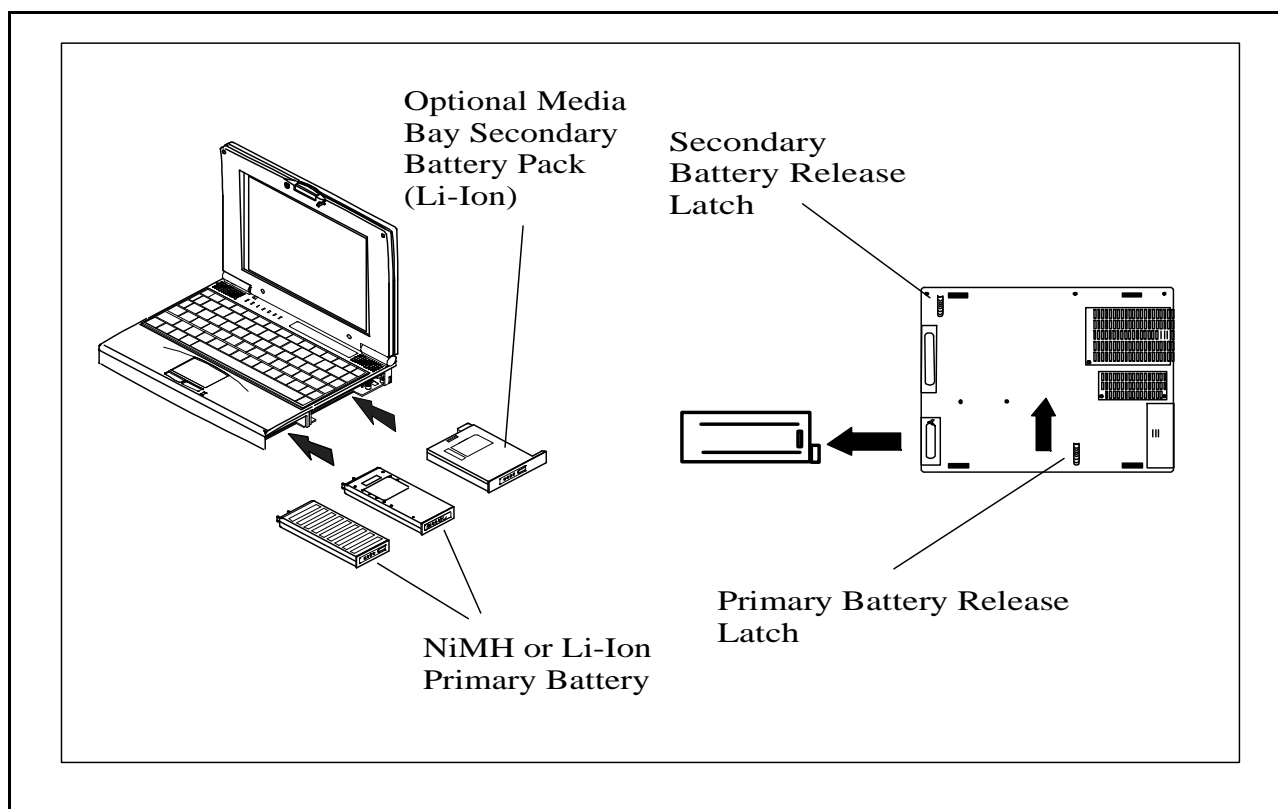

Figure 6-5 Battery Removal/Replacement
2. Press the battery release latch outwards (underneath the notebook) as shown in Figure 6-5.
3. While holding the battery release latch outward, slide the battery outward as shown in Figure 6-5.